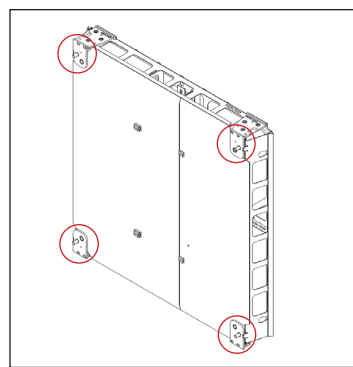

Figure 4: Attach Panel to Tube
1. Insert one self-drilling screw and one M6-1x20 mm jacking bolt in the lower corners on each panel. Refer to **Figure 4**.
2. Insert one self-drilling screw and one M6-1x20 mm jacking bolt in the upper corners on each panel in the bottom row of panels only. Refer to **Figure 4**.